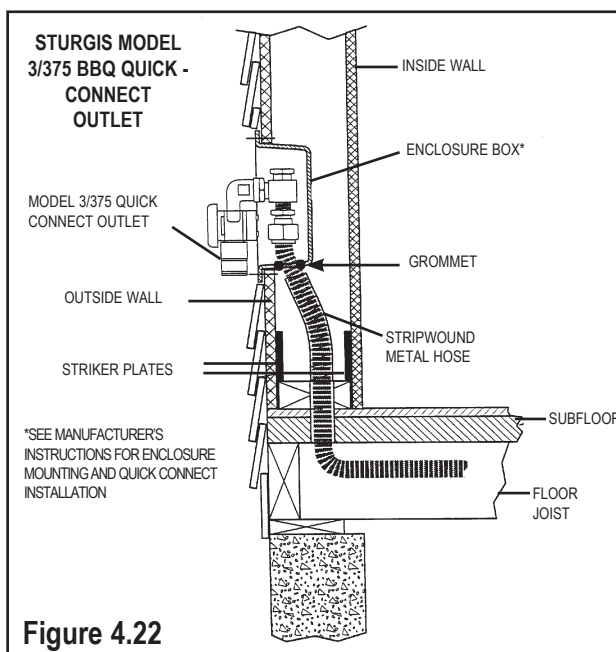

Figure 4.22
- A. Movable grills shall be connected using an approved outdoor appliance connector which shall be attached to the CSST system at either a termination fitting, quick disconnect or other rigidly mounted transition fitting (Figure 4.22). An approved outdoor appliance connector shall be used to connect the appliance to the gas piping system.